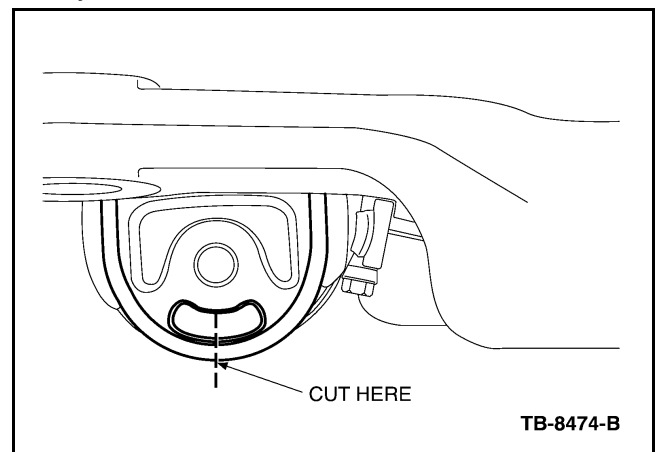

Figure 2 - Article 08-3-4
1. Using a suitable saw or cutting tool, cut the exhaust hanger rod isolator mount (and worm clamp if TSB 06-4-1 was previously performed) from the transmission cross-member as shown (Figure 2). The hanger rods/isolators are a production assembly aid and are not required. Do not cut off the hanger rod from the exhaust system.